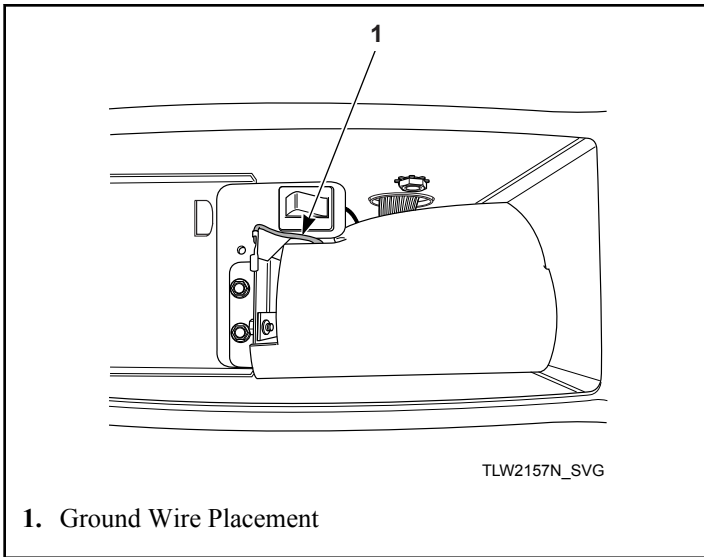

Figure 43
7. Before installing coin slide and extension, make sure ground wire is tucked under control shield to provide clearance for coin slide. Refer to *Figure 43*.